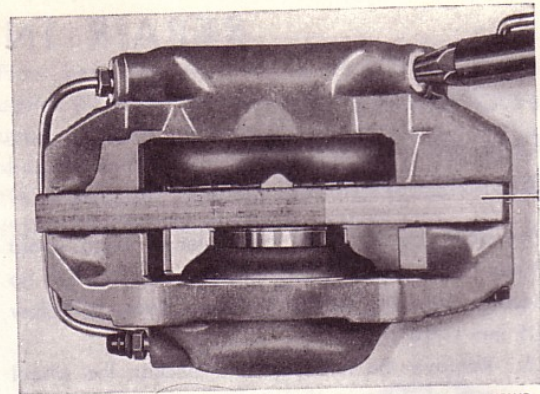

Fig. 18. Removing the plungers.
2. Place a piece of wood between the plungers and press these out against the disc with the help of compressed air, see Fig. 18. The plungers can then easily be removed. Prise off the rubber covers.
3. Remove the oil seals (3) from the cylinders with the help of a blunt tool. Be careful not to damage the edge of the grooves.